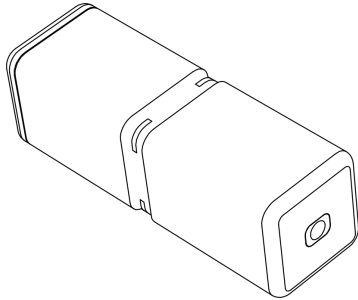

Figure 3A
- 3.1 Custos WWD Main Unit x 1 “Figure 3A”**